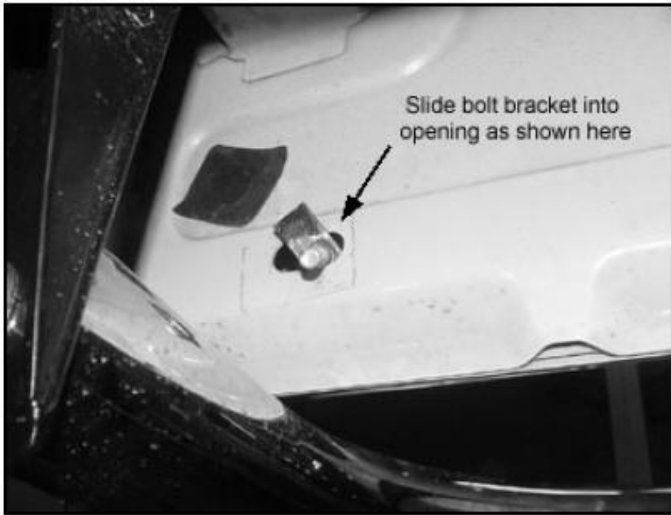

FIG.3
Select the front Support Bracket with the angled end. Remove the sealing tape on the inner body panel to uncover the mounting location. Partially thread (1) 3/8" Plastic Washer onto a 3/8"-16 x 11/5" "T" Bolt Plate. Insert the Bolt Plate into the mounting hole and thread the Plastic Washer down until it is flush against the body panel, (Figure 3). NOTE; The Plastic Washer is designed to prevent the Bolt Plate from falling into the body cavity when properly installed. Secure the Support Bracket to the Bolt Plate with (1) 3/8" Flat Washer, (1) 3/8" Lock Washer and (1) 3/8" Hex Nut. Attach the Support Bracket to the front-facing side of the Mounting Bracket with (1) 3/8"-16 x 1 1/2" Hex Head Bolt, (2) 3/8" Flat Washers, (1) 3/8" Lock Washer and (1) 3/8" Hex Nut, (Figure 5). Snug but do not tighten hardware at this time.
4. Next, select the rear Support Bracket (90-degree bend on one end). NOTE: The rear Support Bracket is not used on the Regular Cab models. Remove the sealing tape on the inner body panel to uncover the mounting location. Partially thread (1) 3/8" Plastic Retainer onto a 3/8"-16 x 11/5" "T" Bolt Plate. Insert the Bolt Plate into the mounting hole and thread the Plastic Retainer down until it is flush against the body panel, (Figure 3). NOTE; The Plastic Retainer is designed to prevent the Bolt Plate from falling into the body cavity when properly installed. Secure the Support Bracket to the Bolt Plate with (1) 3/8" Flat Washer, (1) 3/8" Lock Washer and (1) 3/8" Hex Nut. Attach the Support Bracket to the front-facing side of the Mounting Bracket with (1) 3/8"-16 x 1 1/2" Hex Head Bolt, (2) 3/8" Flat Washers, (1) 3/8" Lock Washer and (1) 3/8" Hex Nut. Snug but do not tighten hardware at this time.
5. Carefully unwrap the Sidebars and select the driver sidebar. Line up the end of the Sidebar with the front Mounting Bracket and secure with (1) 1/2"-13 x 2" Hex Head Bolt, (1) 1/2" Lock washer and (1) 1/2" Flat Washer. Do not tighten hardware at this time. Repeat this step to bolt the Sidebar to the rear Mounting Bracket.